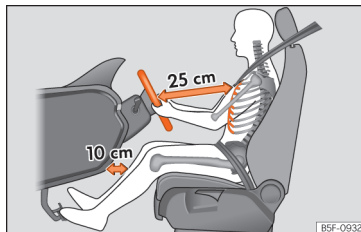

Fig. 87 The proper distance between driver and steering wheel.
»» **Fig. 87.**
- Adjust the driver's seat so that there is at least 25 cm distance between the centre of the chest and the centre of the steering wheel »» Fig. 87. If you are sitting closer than 25 cm, the airbag system cannot protect you properly.